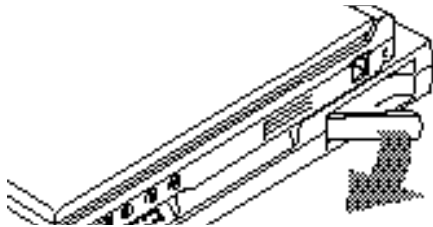

Figure 4-6 Releasing Your Notebook from an Enhancement Unit
5. Pull the levers on both sides of the LAN Enhancement Unit forward until the rear of your notebook rises slightly. (Figure 4-6.)